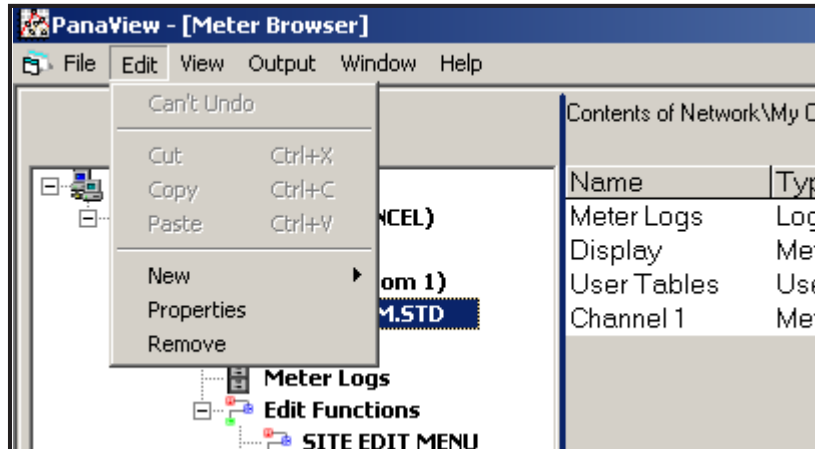

Figure 49: Properties Option
2. Right-click on the highlighted XGM868i and select the *Properties* option, as shown in Figure 49.